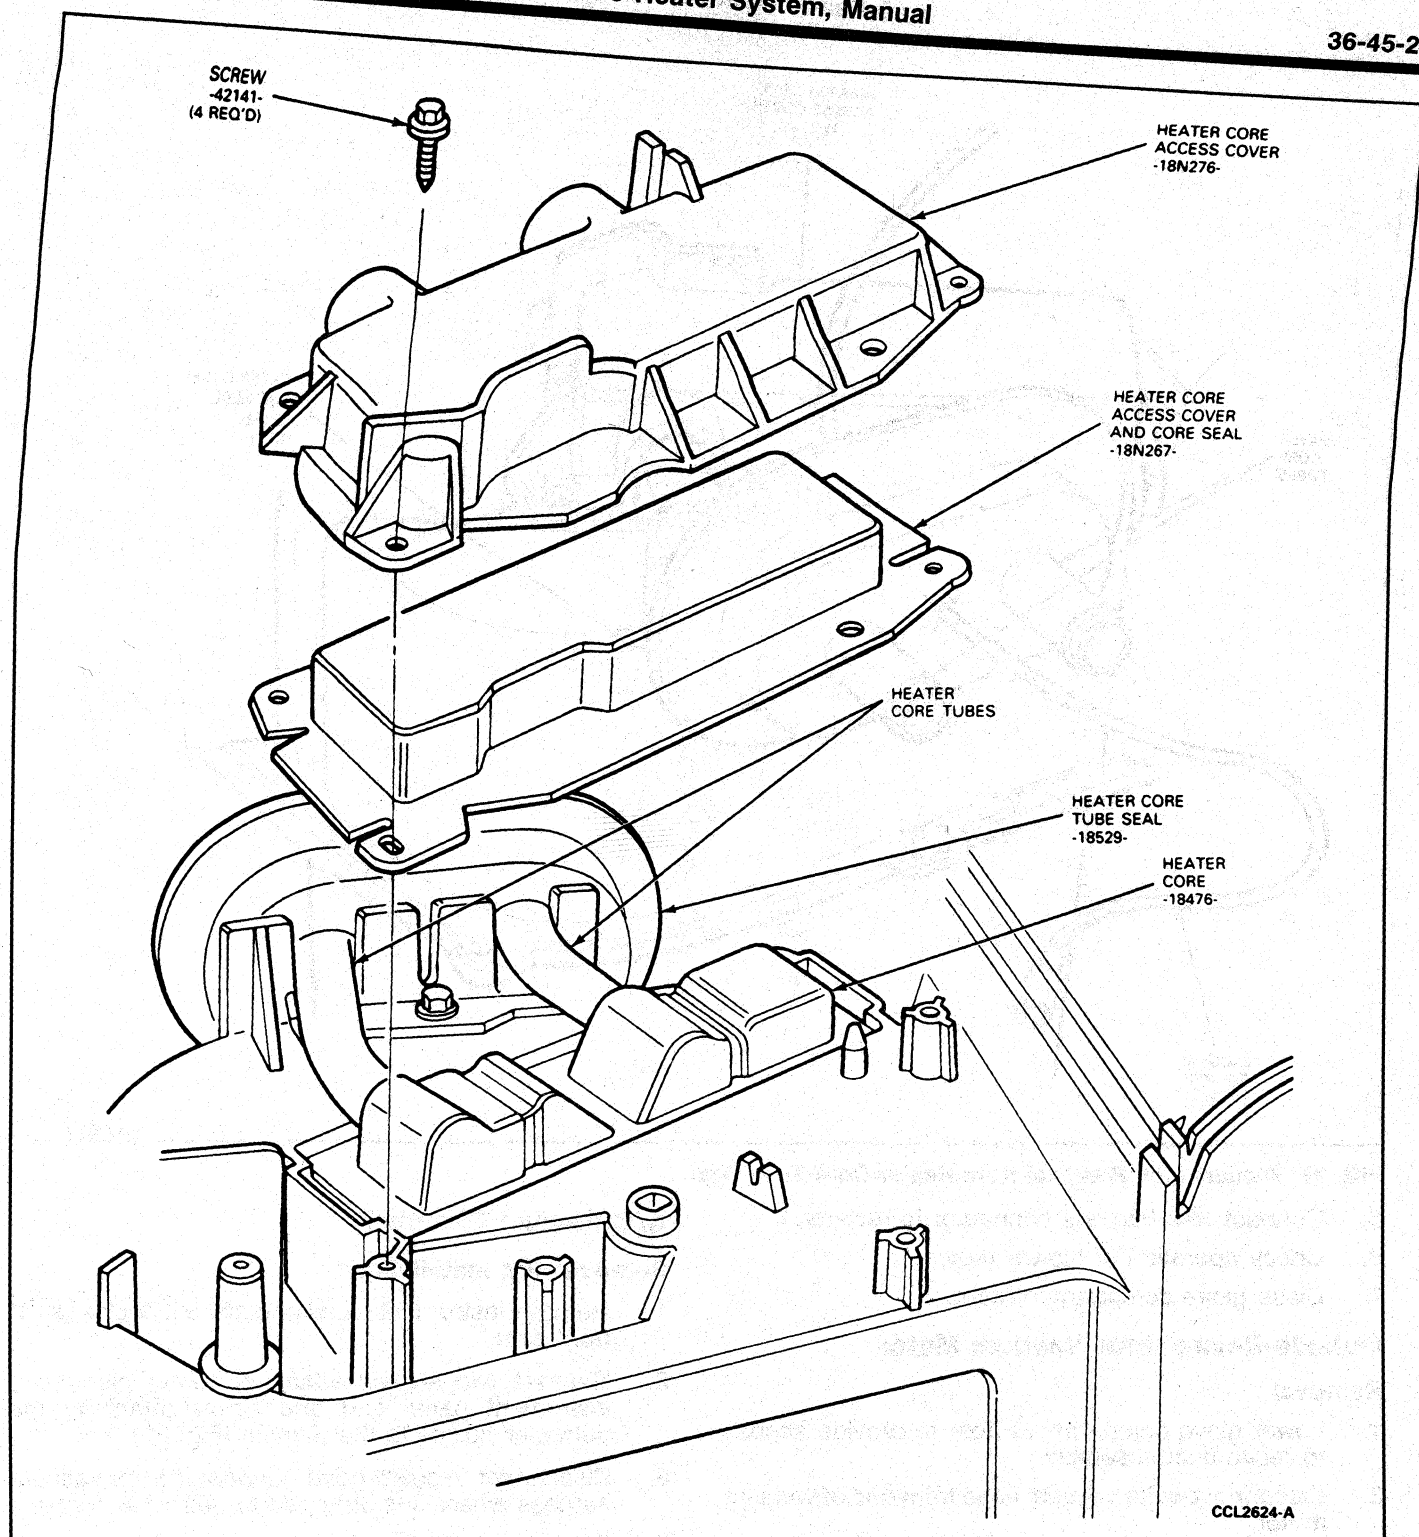

FIG. 33 Heater Core Access Cover Removal
5. Remove four heater core access cover attaching screws. Remove access cover and seal from evaporator case (Fig. 33).